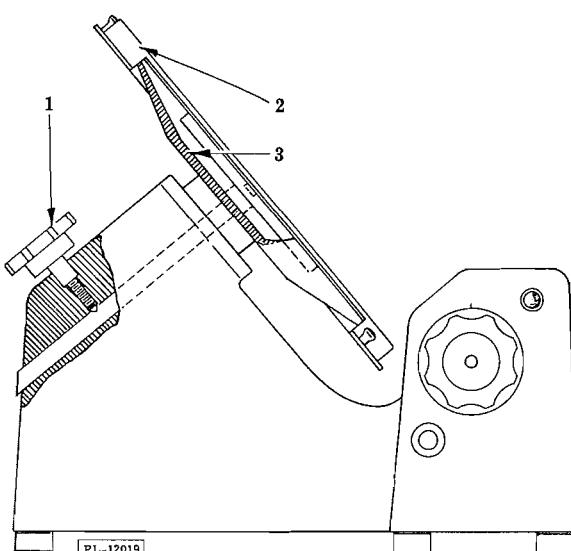

Fig. 2
5.2.5 Loosen knife guard locking screw (1, Fig. 2), pull knife guard (2, Fig. 2) straight away from knife (3, Fig. 2) until center stud clears mounting hole.